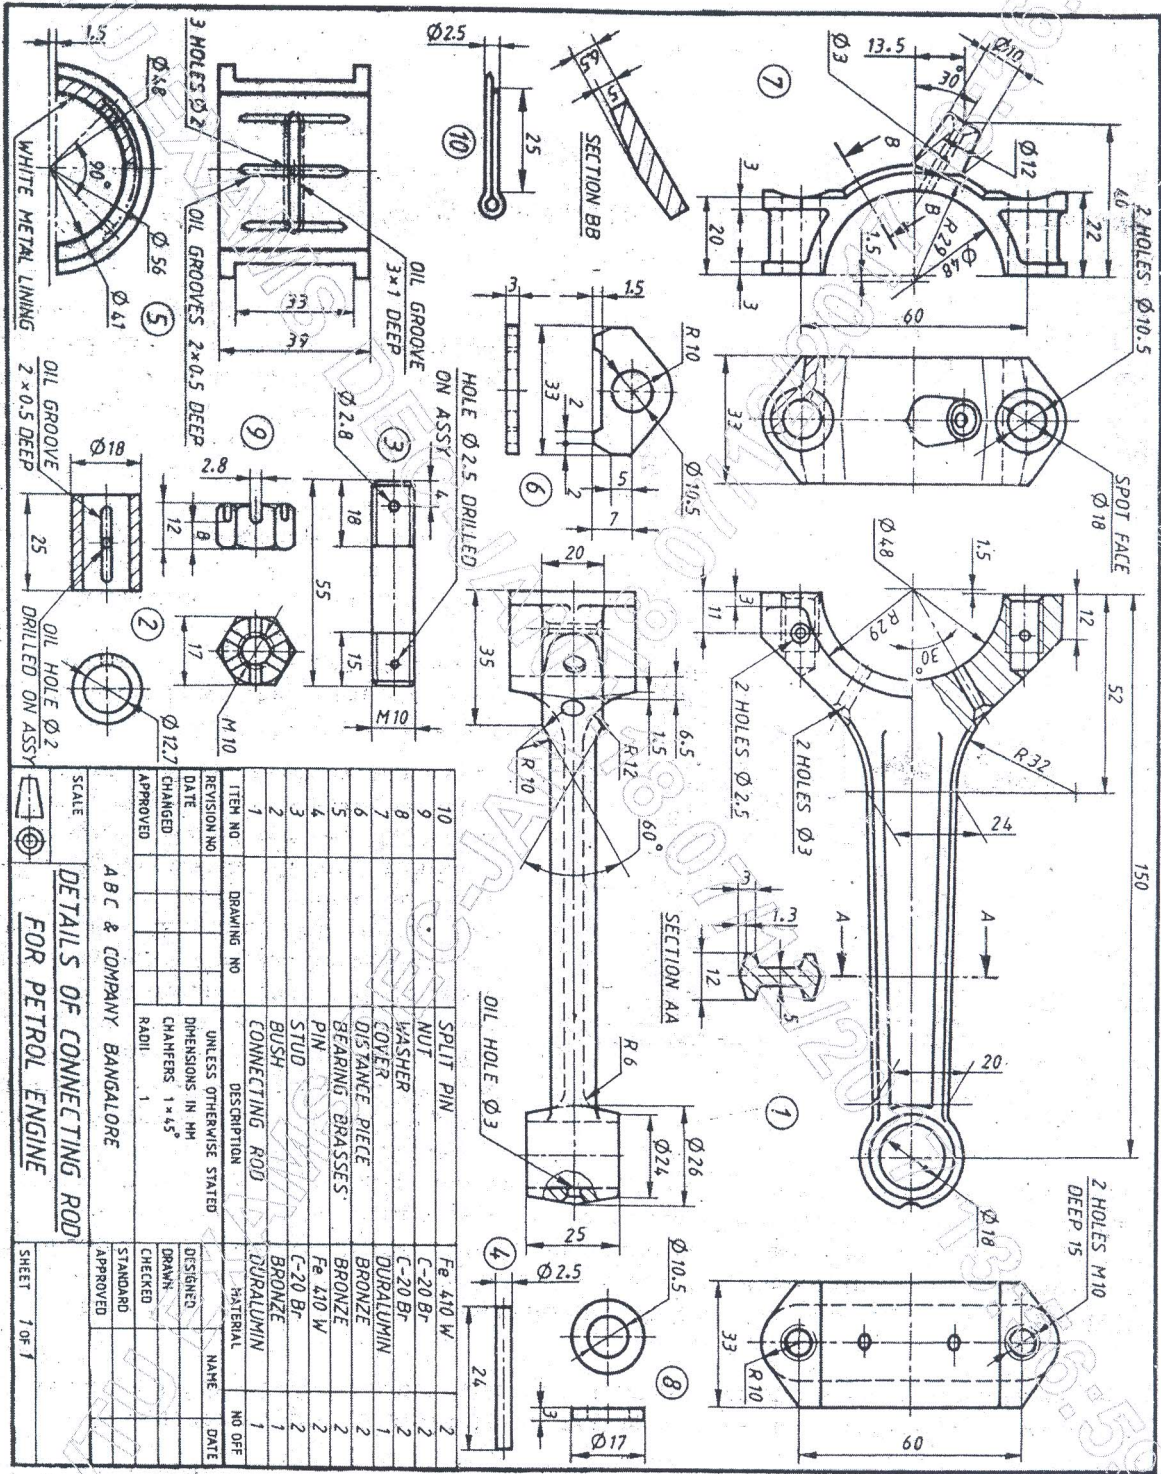

Figure 3. I C ENGINE CONNECTING ROD
Q.No.6 Details of I C ENGINE CONNECTING ROD is shown in following Figure 3. Assemble the parts and draw the following views.